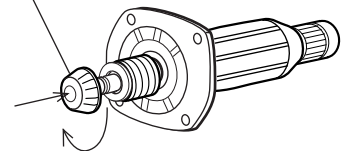

Fig. 2B
- (3) Assemble spiral bevel gear 9 to armature shaft with turning clock wise as illustrated in Fig. 2B.